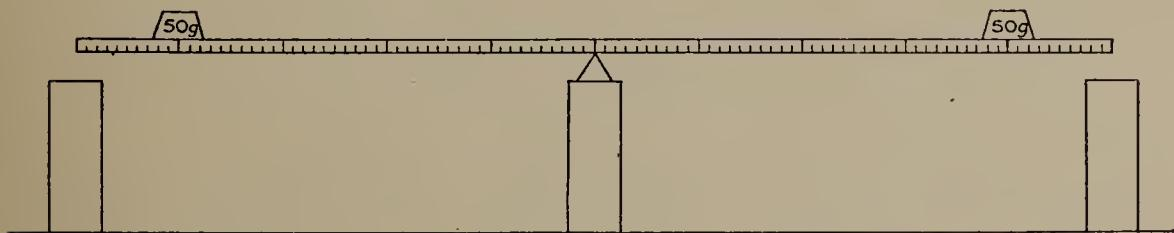

FIG. 24.
Balance the meter stick on the prism as shown in Fig. 24. Placing a 50-gram weight on the 10-cm. line, find the point of the stick on which another 50-gram will balance the bar, either end remaining down when put down. Call the weight on the right side of the prism the force (F), and the other the load (L). The tendency of the force to make the bar rotate about the fulcrum (prism) in a clockwise direction is known as a positive moment; and the tendency of the weight to make the bar rotate in a counter-clockwise direction is known as a negative moment. Either one is represented by the product of the force (or weight) and the distance from the fulcrum.